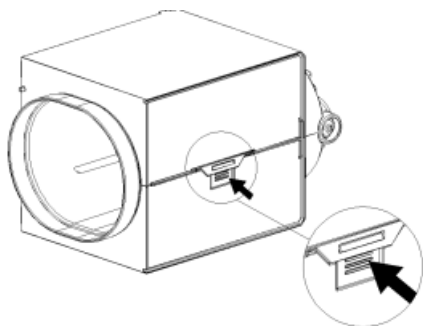
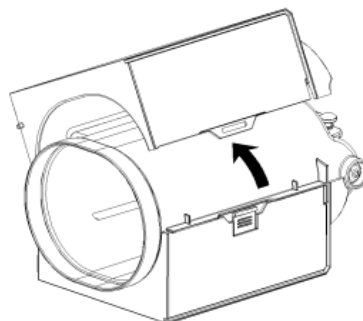

Fig.8
Fig.9
4. Press and hold the buckle of the barrel cover (as shown in Figure 8), and remove the left and right covers of the barrel (as shown in Figure 9).